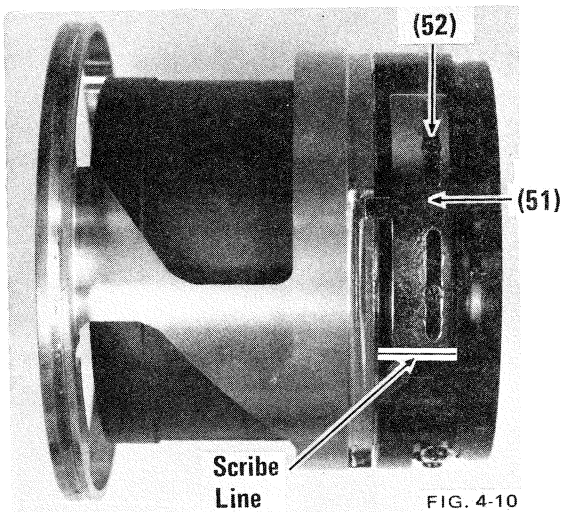

FIG. 4-10
- c) Place a scribe line along edge of infinity stop plate (51). Remove two screws (52) and the stop plate. Fig. 4-10.
- Place a scribe line along edge of infinity stop plate (51). Remove two screws (52) and stop plate. Fig. 4-10.